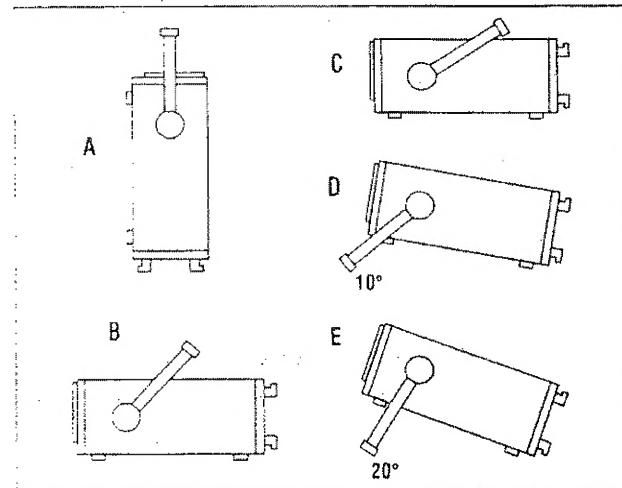

Fig. 1. Tilt Handle Operation
To view the screen from the best angle, there are three different positions (C, D, E) for setting up the instrument (see Figure 1). If the instrument is set down on the floor after being carried, the handle automatically remains in the upright carrying position (A). In order to place the instrument onto a horizontal surface, the handle should be turned to the upper side of the Spectrum Analyzer (C). For the D position (10° inclination), the handle should be turned to the opposite direction of the carrying position until it locks in place automatically underneath the instrument. For the E position (20° inclination): the handle should be pulled to release it from the D position and swing backwards until it locks once more. The handle may also be set to a position for horizontal carrying by turning it to the upper side to lock in the B position. At the same time, the instrument must be lifted, because otherwise the handle will jump back.